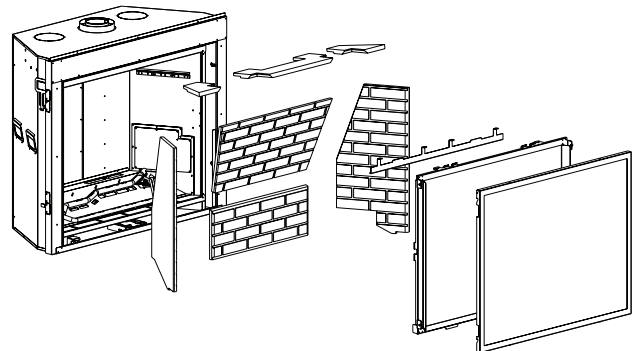

**Figure 5**
4. Remove protective connectors on Wire Assembly from fireplace and discard. Connect Wire Harness to both blowers and the other end to the Wire Assembly supplied with the fireplace. **See Figure 5.**